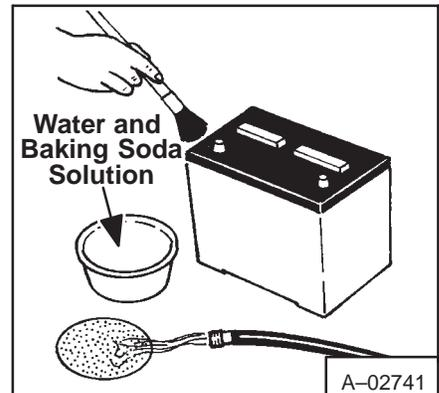

Fig. 1-23 Cleaning the Battery
1. Check the battery cables and make sure they are clean and tight. Check the water level of the battery. Remove any acid or corrosion from the battery and cables with a sodium bicarbonate and water solution (Fig. 1-23). Cover the battery terminals and cables with grease.